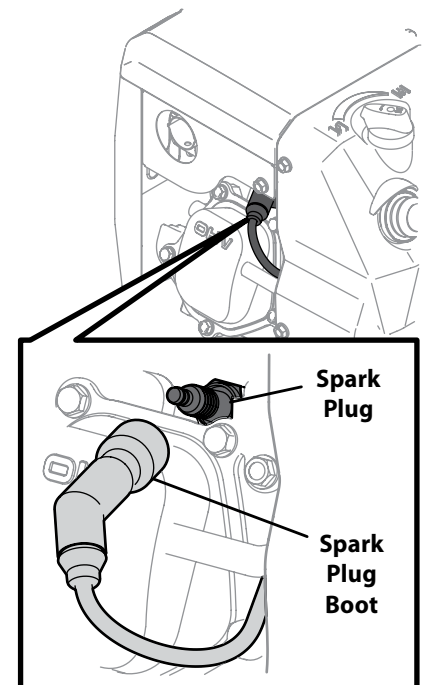

Figure 6-2
1. Carefully disconnect the spark plug wire and keep it away from the spark plug. Refer to Figure 6-2 for spark plug location.
1. Remove the spark plug boot. See Figure 6-2.